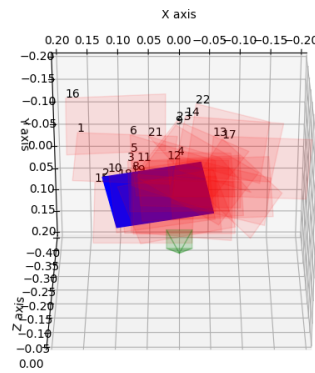

Figure 3: Example plots for (v)(b).
- (b) As a second check, take a look at plotBoardLocations and run this function as well (in cal_workspace.py). This function takes in your extrinsic parameters and shows the estimated locations and orientations of the chessboards relative to the camera. Refer to Figure 3 to see what the expected results should be. (Hit enter in the terminal to move to the next image.)